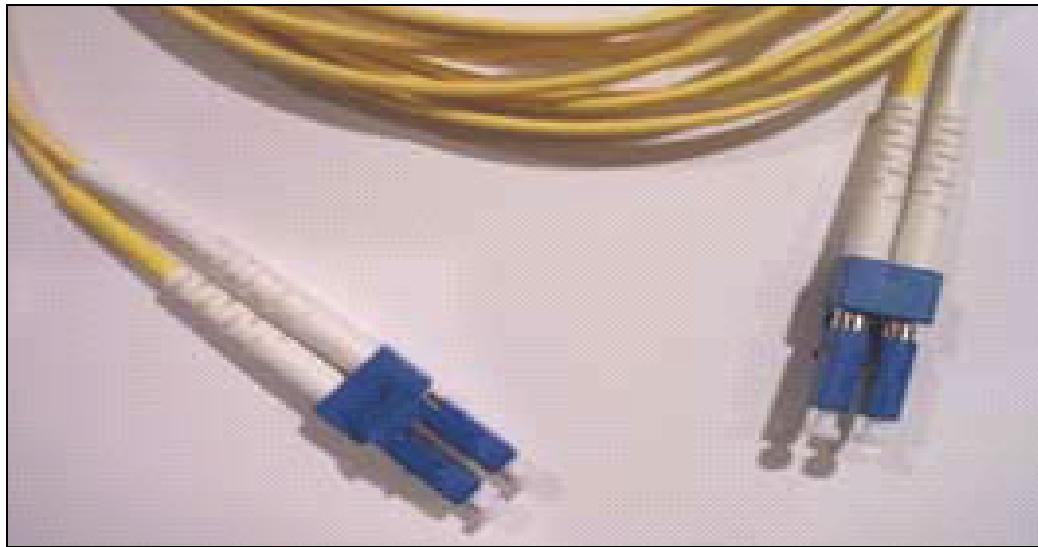

Figure 2-10 Single mode fiber optic cable with LC Duplex connectors
- ▶ Standard 9 µm single mode fiber optic cable (see Figure 2-10 on page 35) with LC Duplex connectors for PSIFB LR (1X) links.